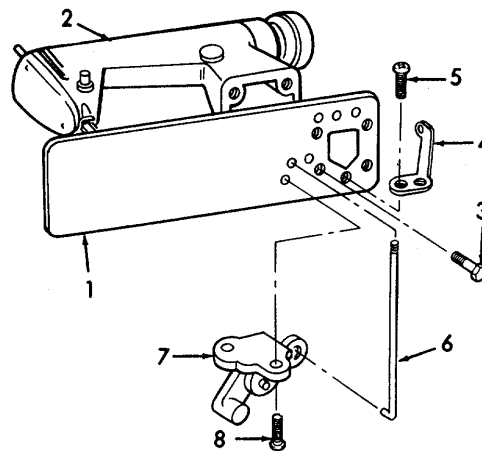

Figure 6-63. Bed and Arm, Assembly.
- (1) Inspect hardware for damage.
- (2) Inspect the bed for damage.
- (3) Inspect the arm case for damage.
- (4) Inspect the crank lifter for damage.
- (5) Inspect the rod for damage.
- (6) Inspect the bracket for damage.
e. Installation (Refer to Figure 6-63).
- (1) Place the bed (1) into position on the arm (2).
- (2) Use a soft mallet to seat the bed on the arm.
- (3) Install four bolts (3).
- (4) Install bracket (4) and screw (5). (5) Install rod (6).
- (6) Install crank lever (7) and secure with two screws (8).